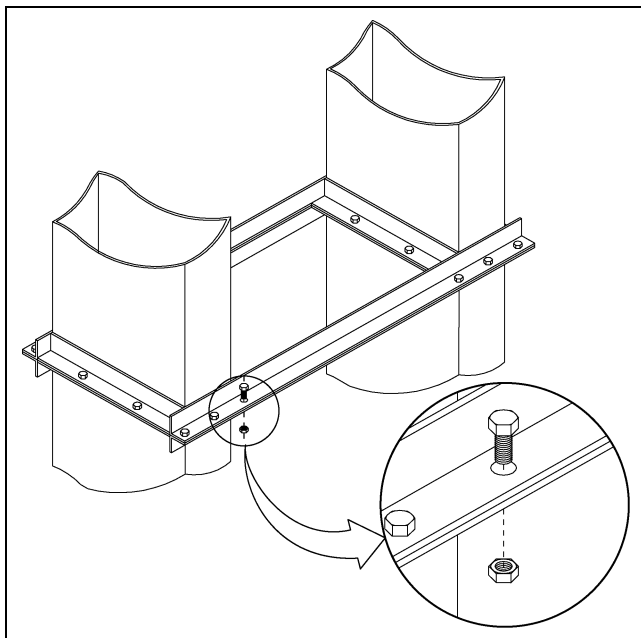

Figure 4F Elevator Joint Fasteners
5. Plumb each elevator section as it is positioned on the preceding section. Attach guying and/or bracing as determined by pre-installation planning. Shim as required to plumb each section and tighten assembly fasteners. (See Figure 4F.) The elevator shipment included one or more containers of bulk fasteners, sufficient to completely assemble the elevator and any accessories ordered with it. **FASTENERS WERE NOT PROVIDED FOR ASSEMBLY OR ATTACHMENT OF BRACES OR ANY OTHER EQUIPMENT.**